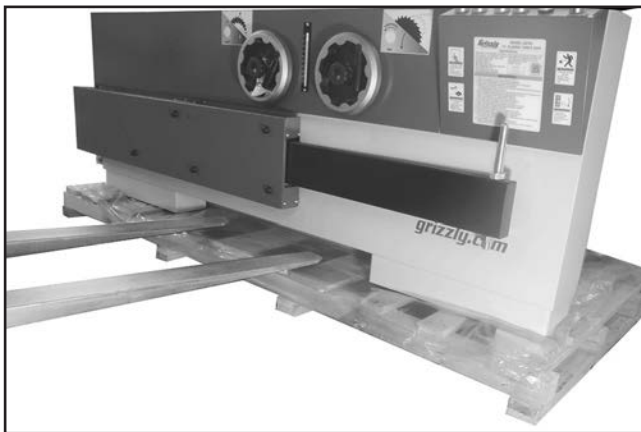

Figure 15. How to insert forks for lifting table saw off pallet.
2. Remove top of crate. Position forklift forks as wide as they can be while still fitting under center opening (see **Figure 15**).